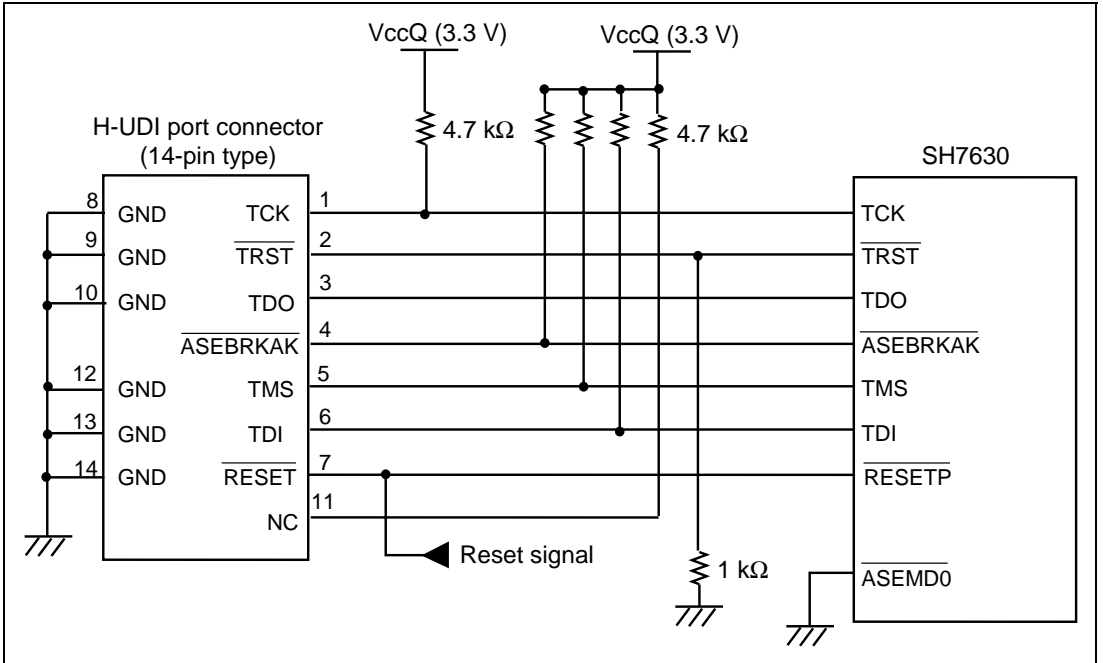

Figure 1.5 Recommended Circuit for Connection between the H-UDI Port Connector and MPU (14-Pin Type)
Figure 1.5 shows a recommended circuit between the H-UDI port connector and the MPU.
- (1) When the emulator is used: /ASEMD0 = low (ASE mode)
- (2) When the emulator is not used: /ASEMD0 = high (normal mode)
7. The resistance values shown in figure 1.5 are recommended.